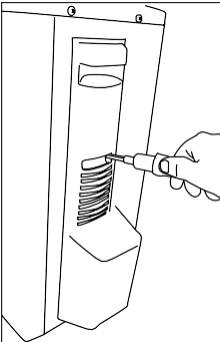

Figure 15. Remove the side cover.
1. Remove the side cover (see Figure 15).